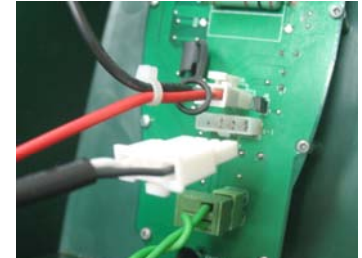

Figure 1.20 -
- Connect the Power Supply cord to the Base Station board. See Figure 1.20.